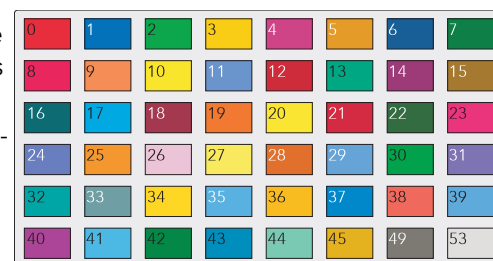

Figure 4.4.2b Trend colour swatch
Colour A (B)	Allows two alternative colours (A and B) to be specified for the channel. Figure 4.4.2b gives an approximate rendering.